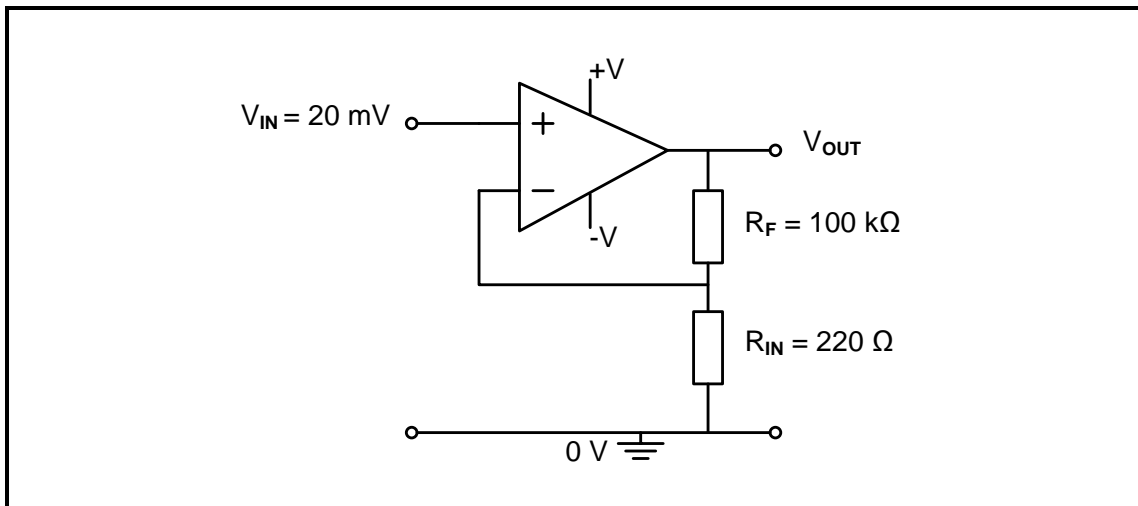

FIGURE 3.2: NON-INVERTING OP AMP
3.2 Refer to FIGURE 3.2 below and answer the questions that follow.